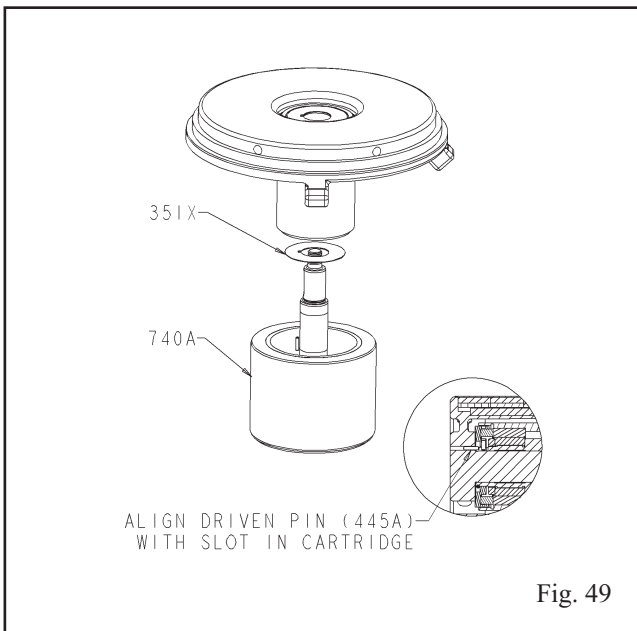

Fig. 49
- Mount the intermediate ring gasket (351X) on to the shaft of the driven magnet assembly (740A) (Fig. 49).
- Place the driven magnet assembly (740A) on the workbench and mount the pre-assembled bearing cartridge (849) and backplate (444) assembly onto the driven magnet assembly from above. Make sure the driven carrier pin or key (445A) engages the carrier groove in the bearing cartridge (849). The backplate can be turned slightly to help with alignment (Fig. 49).